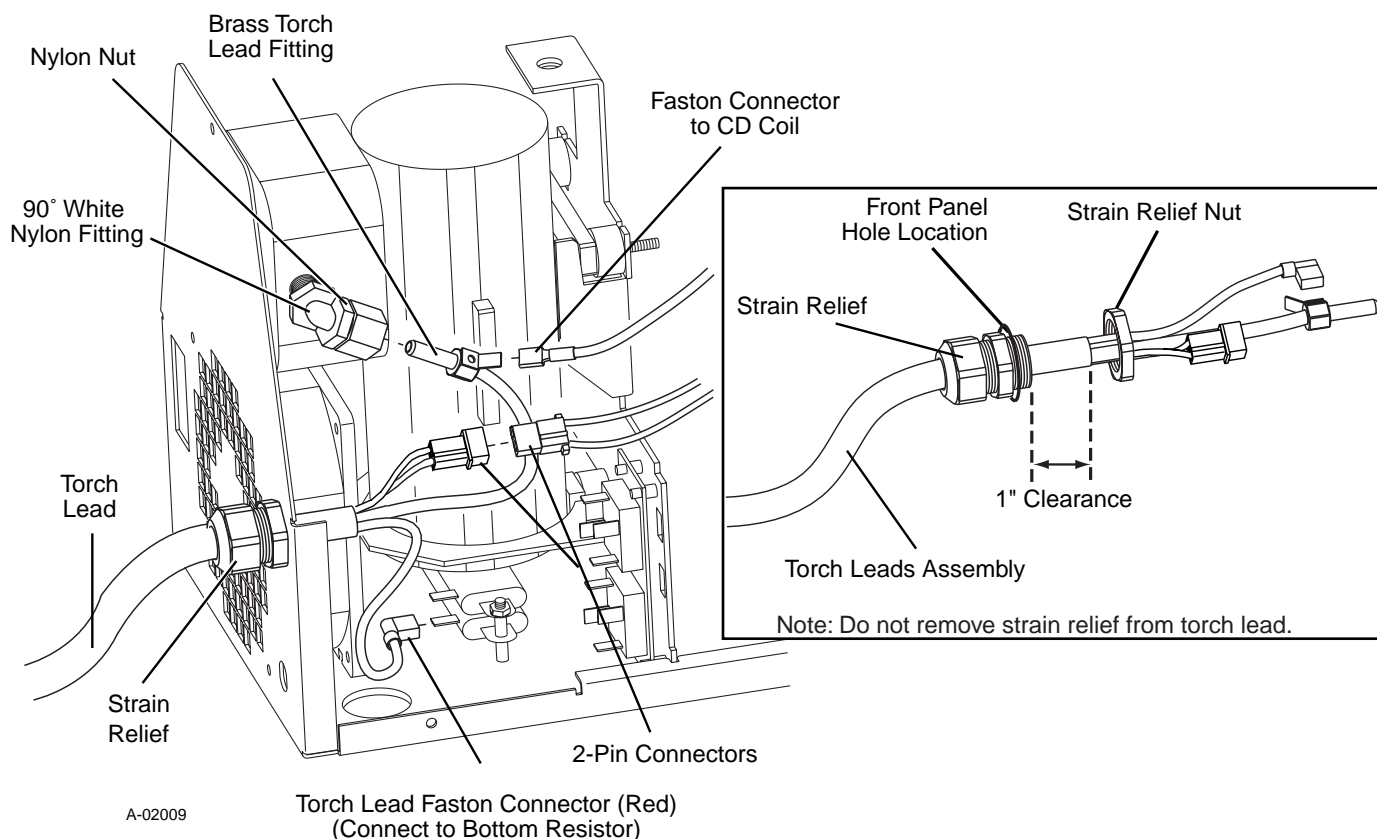

Figure 4-4 Torch & Leads Replacement
2. Disconnect the following (refer to Figure 4-4):